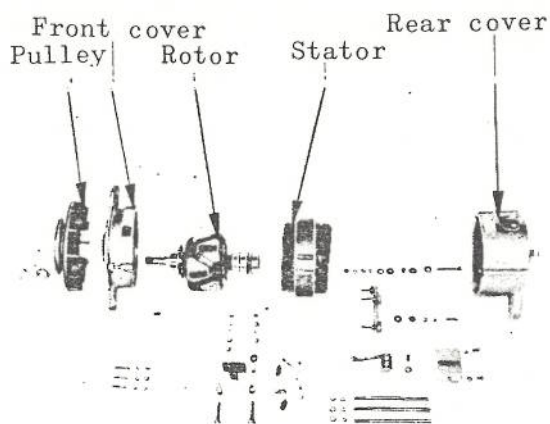

Fig. 10-26
- (4) Disconnect the wiring between the stator coil and the silicone diode and then remove the stator and rear cover (See Fig. 10-26)